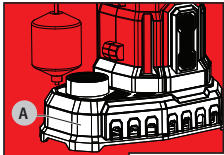

Figure 3
4. This pump is equipped with an (A) anti-airlock hole. A stream of water will emit from this hole when the pump is operating. This is a normal feature of this pump. The anti-airlock hole should be cleaned periodically to prevent the pump from becoming air locked. See Figure 3.